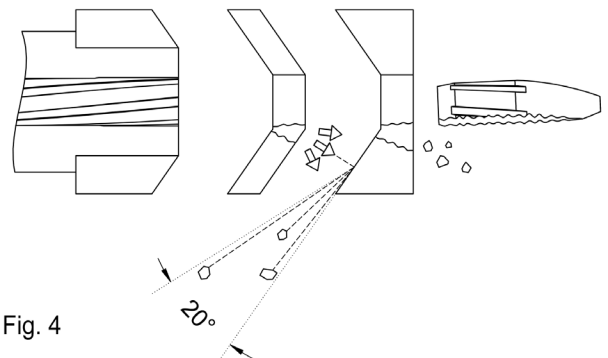
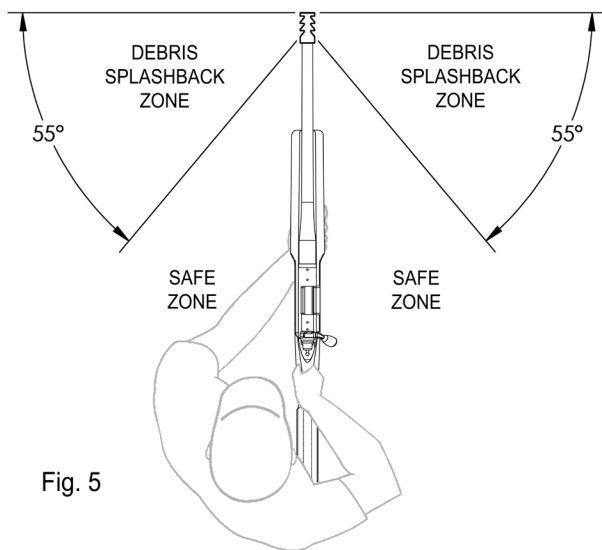

Fig. 4
Fig. 5
**WARNING!** In the event of a Bullet-to-Baffle collision or "Baffle Strike", high velocity debris may be deflected from the baffle impingement surface at an angle up to 20-degrees greater than the baffle angle (Fig. 4). This debris may include bullet and/or baffle fragmentation that is capable of causing severe bodily injury. This device has a maximum baffle angle of 35-degrees thereby creating a 55-degree Debris Backblast Zone on each side of the shooter (Fig. 5). It is important to precisely follow all installation
**WARNING!** This device produces high pressure, high temperature exhaust jets in the Debris Backblast Zone (Fig. 5). All body parts, weapon forearms, and/or weapon attachments must be kept within the Safe Zone (Fig. 5) and at a minimum safe distance of 2 inches behind the back of the device. Any object, including body parts, located within close proximity to the exhaust jets, may be damaged, or destroyed. Any hard object located within the Debris Backblast Zone may further deflect dangerous debris causing injury to the shooter and/or bystanders.